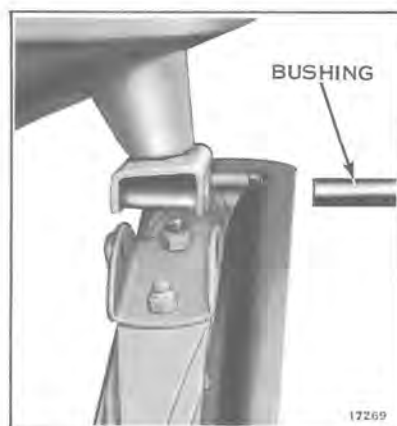

Figure 11-2
3. Remove locknut and screw from saddle and bushing. Remove ski and spring assembly from ski column. See Figures 11-2 and 11-3.
- d. Apply grease to outside of bushing and assemble to ski column as shown in Figure 11-2. Secure with screw and locknut. See torque specs.